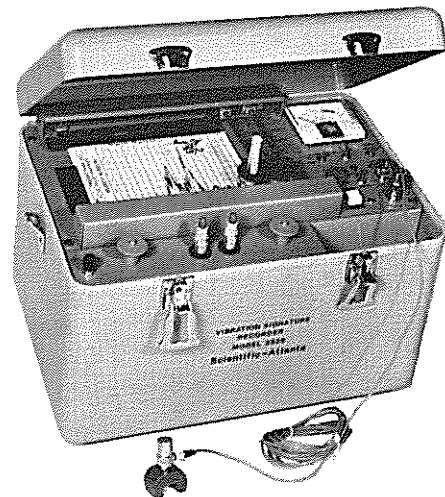

Fig. 3
9. The Scientific Atlanta vibration signature analyser SA2538 (Fig. 3), widely used by the Services and civil helicopter operators, is a very powerful maintenance tool. It gives a hard copy read out in one minute, for the press of one button. The helicopter's vibration signatures in the hover, at mid-speed and at cruise, are recorded in the vertical, lateral and fore and aft planes. Nine cards in all. We can record 0-100 Hz (covering main and tail rotor frequencies) or 0-1500 Hz (for high orders, e.g. gear meshing frequencies). By relating the peaks back to a vibration order sheet (Fig. 4) we can pin point the sources and choose our tactics to reduce or eliminate them. This cuts out the time wasting, the guesswork, the needless changing of components familiar in trial and error methods. "No fault found" cases vanish. We can rectify with confidence.